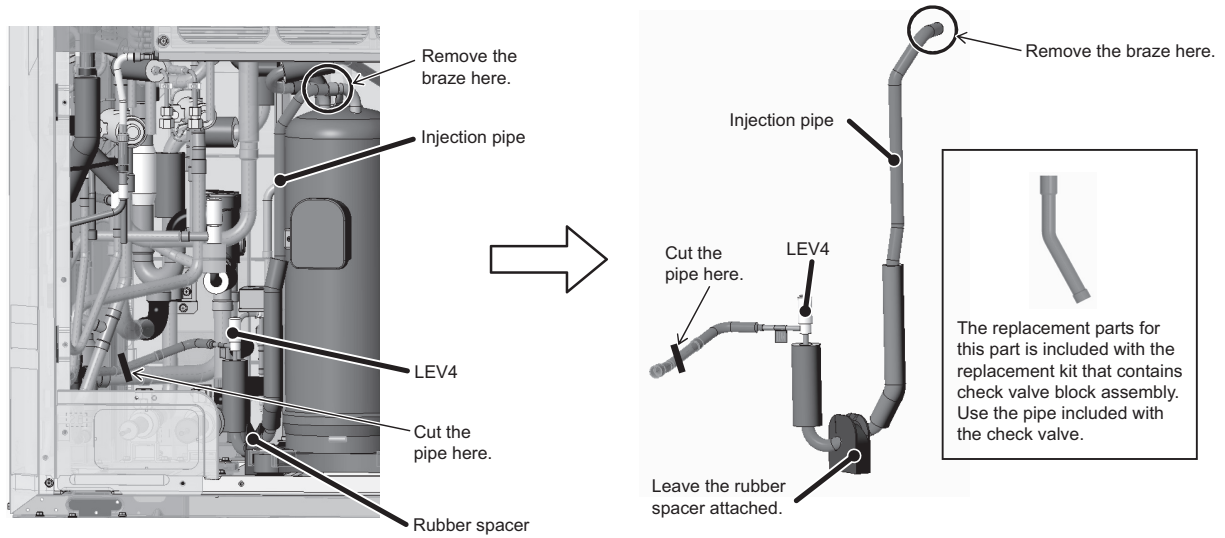

Figure 11
(11) Cut the pipe with a pipe cutter at the area shown in Figure 11. Remove the braze at the area circled in Figure 11 to remove LEV4 assembly. (See Figure 11.)